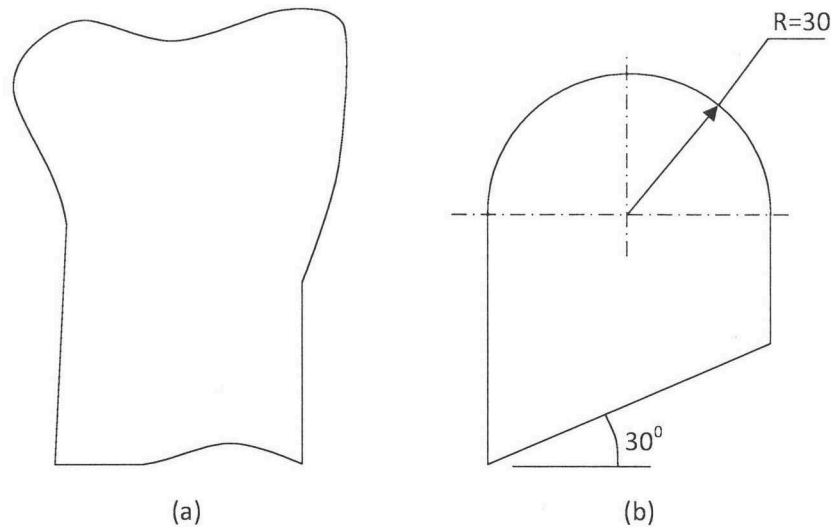

Figure 3
- (b) **Figure 3** (a) shows a surface of an irregular wooden block.
- (i) Outline the construction procedure to produce the shape in figure 3 (b). (7 marks)
- (ii) Construct and mark out the shape shown in figure 3 (b). (5 marks)